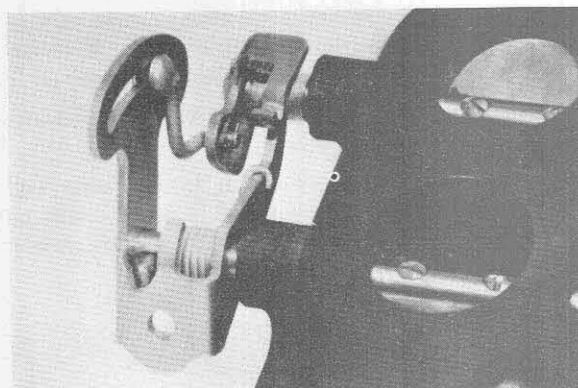

Figure 7-17
7. Hook the inner end of the override shaft spring onto the secondary throttle actuating lever. Refer to Figure 7-17 for proper assembly of throttle linkages.